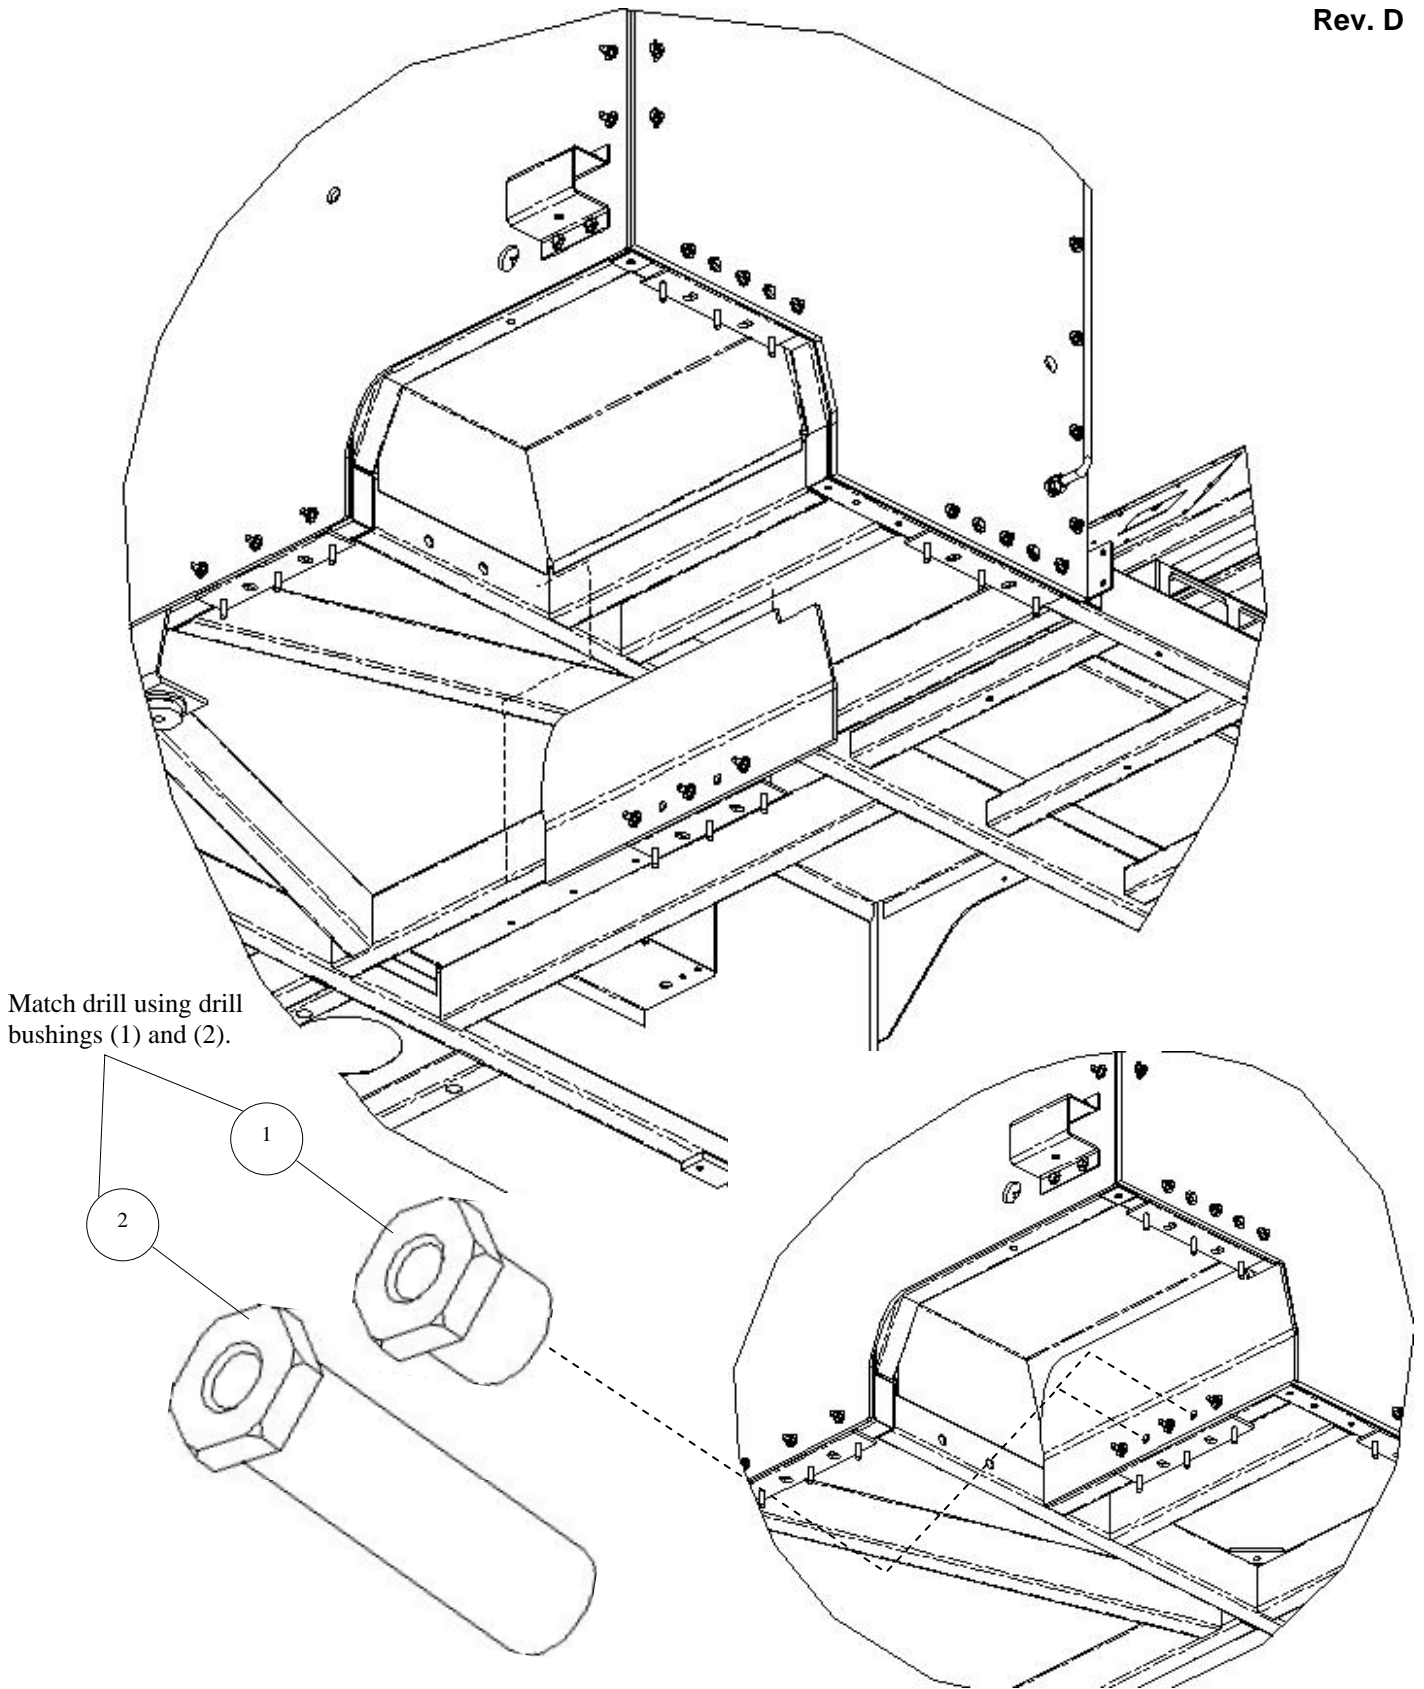

Figure 3-27. Match-Drill Cab Frame Rail.
2. Match-drill cab frame rail as follows (see Figure 3-27):
The following procedure is used for each of the holes shown in Figure 3-27.